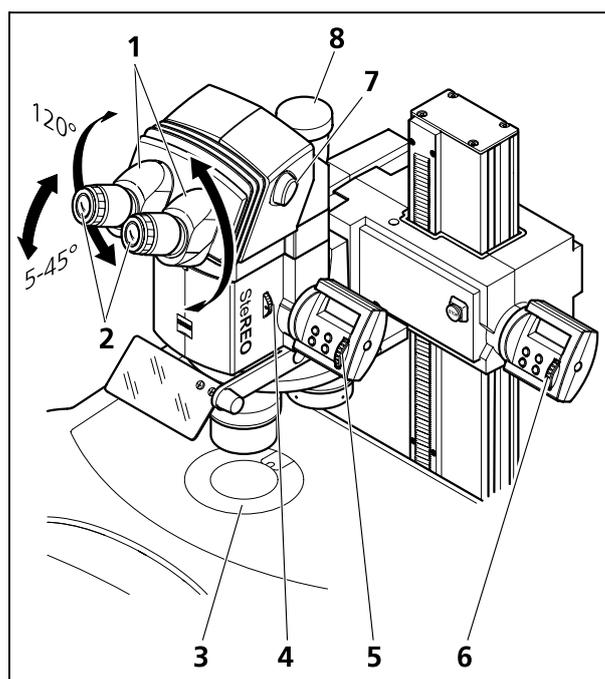

Fig. 30 Adjusting the stereomicroscope (motorized zoom and focusing)
1. Place the specimen in the center of the round stage insert (Fig. 30/3).
2. Set the diopter-setting ring on focusing eyepieces (Fig. 30/2) to the required value, if known, otherwise set it to "0".
3. Select the desired viewing height by swiveling the eyepiece sockets (Fig. 30/1) by maximally 120°; adjust them to your interpupillary distance. You should see an unclipped circle of light when you look into the eyepieces.
5. Turn knurled wheel (Fig. 30/4) to open the aperture diaphragm.
6. At first, set the zoom (Fig. 30/5) to minimum magnification to find the object to be examined.
7. Focus on a small, prominent feature in the center of the image (Fig. 30/6).
8. Adjust the maximum zoom value (Fig. 30/5). Because of the high magnification, it is likely that the feature appears blurred again and off center.
9. Search for the feature by moving the specimen and exactly re-focus on it (Fig. 30/6).
10. Then, set the minimum zoom again (Fig. 30/5) and correct for any existing image blurring by separately turning the diopter-setting rings of the focusing eyepieces (Fig. 30/2) to compensate for defective vision.
If desired, connect a camera of your choice to the camera port of the ergo phototube (Fig. 30/8). To switch the light path over, turn the lever (Fig. 30/7) over. The right light path is reflected at 100 %.
3. Put the object into the center of the round stage insert (Fig. 30/3).